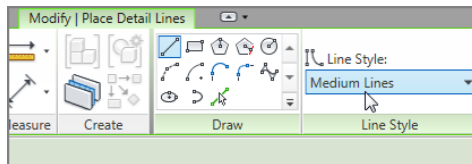

FIGURE 12.47: Select the Medium Lines choice in the Line Style menu.
3. In the Line Style menu, select Medium Lines, as shown in Figure 12.47.